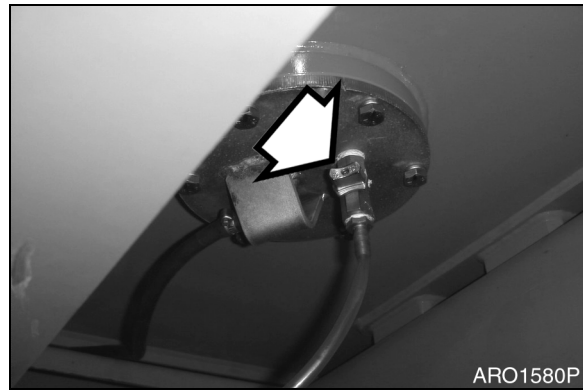

Figure 6
13. Place a large enough container under the tank to collect remaining fuel. Open drain valve (Figure 6) at bottom of tank and empty tank.